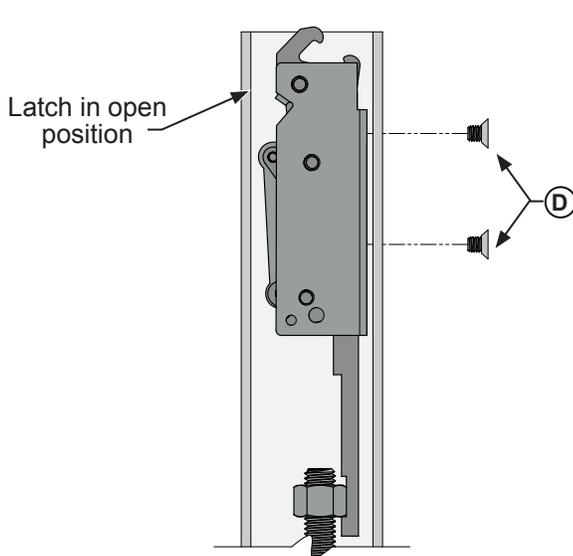
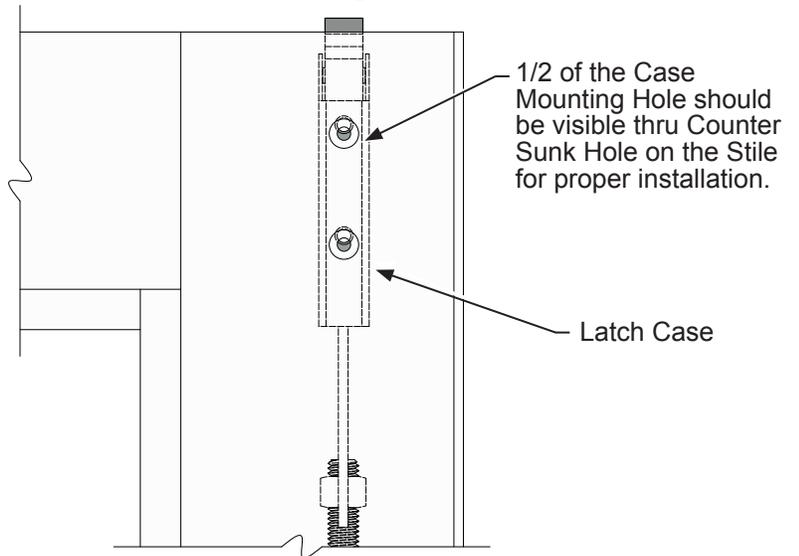
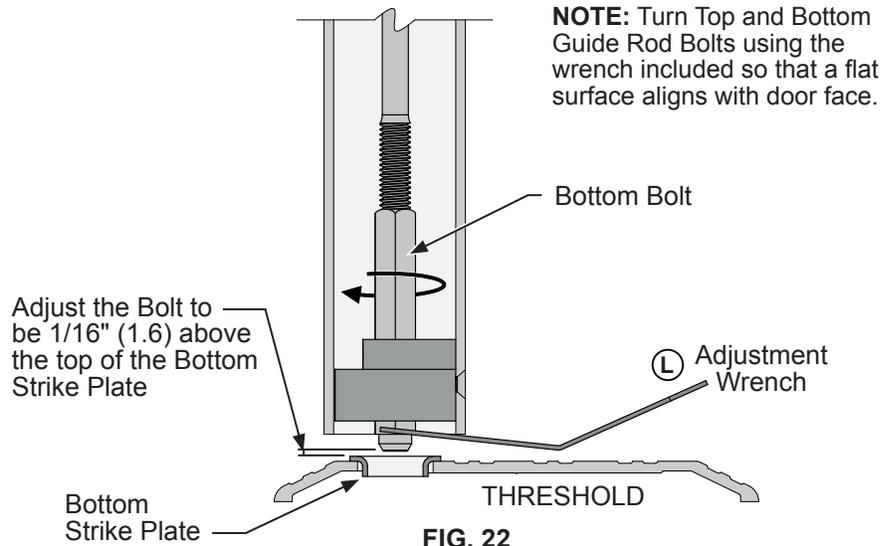

FIG. 19
FIG. 20
FIG. 22
1. Depress the push bar to assure free movement of the rod and case assembly. Both upper and bottom bolts should activate to the open position. The upper bolt should drop into the open position (**Fig. 22**).
2. Remove the (2) (D) 10-32 x 1/4" flat head machine screws at the top of the active door stile. Adjust the top latch into the open position. **(Fig. 19)** Rotate the top latch case until the mounting holes on the latch case are off - center to the countersunk holes on the active stile. **(Fig. 20)** Re-attach and secure the latch case with the (D) (2) 10-32 x 1/4" flat head machine screws.
2. Depress the push bar, The bottom rod will retract and the latch will move to the unlocked position. **(Fig. 19)** With the latch in this position adjust the bottom bolt using the adjustment wrench (L) included. **(Fig. 22)**
Depress the push bar. The bottom bolt should retract to the bottom edge of the door stile. The upper latch will return to the open position. **(Fig. 19)**
****Important:** If the upper latch returns to the open position with the push bar being partially depressed, or if the upper latch does not go to the open position when the push bar is fully depressed, repeat the dogging procedure and the adjustment steps on page 17. The upper and lower latch might need to be adjusted again. **(Fig. 19)**